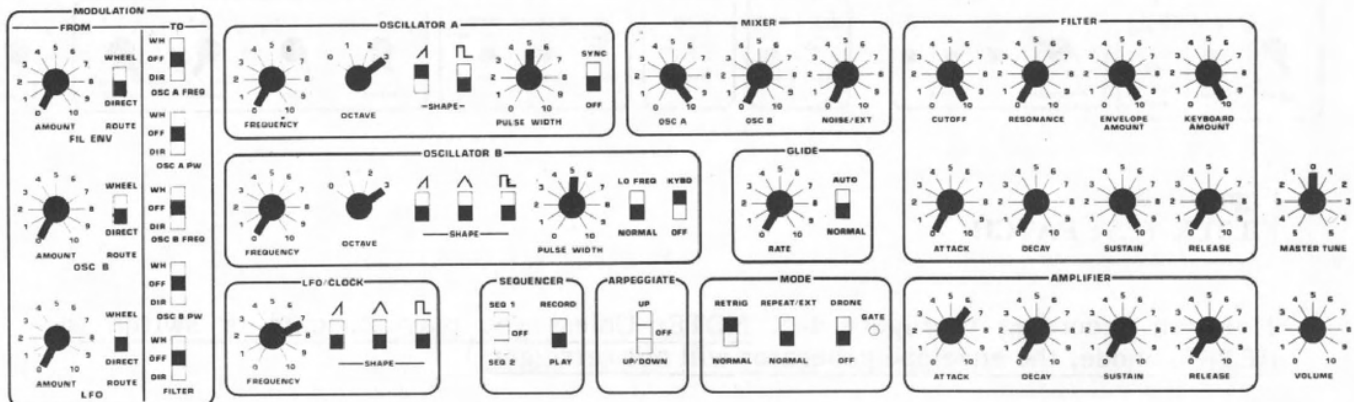

Figure 1-6
1. Patch according to Figure 1-6.